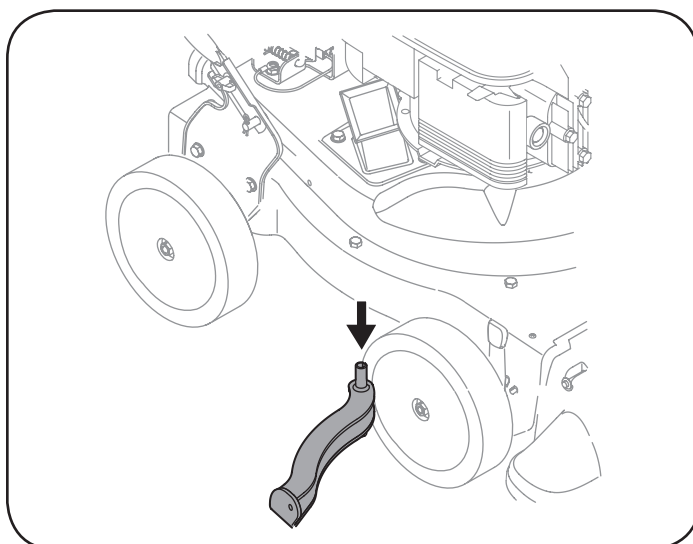

Figure 21
7. Remove and clean the screen by scraping or washing with water. See Figure 21.